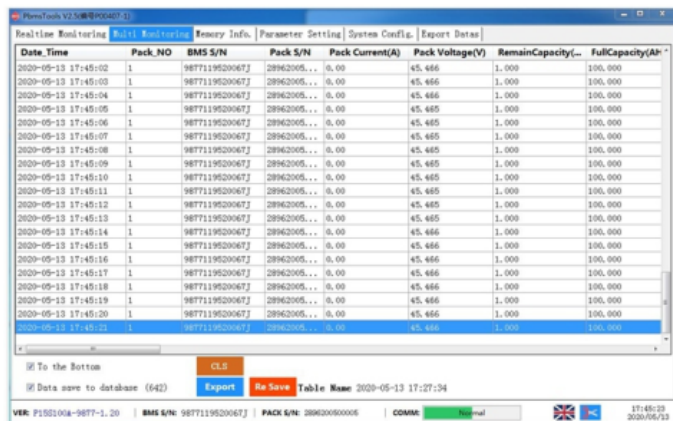

Figure 21: Multi Monitoring
(3) In the Data Storage (As shown in figure 21 and 22),
Figure 21 there are two check boxes: display and Record Data.
The files in all tables are located under the current file path of the data folder and are the backup files of Multi Monitoring in Figure 21. The storage file name is named according to the data recording time, such as 2020_04_30-091402.